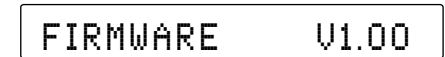

Figure 2
1. Repeatedly press the SETUP Push-button until “FIRMWARE V_._.” is indicated on the Front Panel Display. Refer to figure 2.